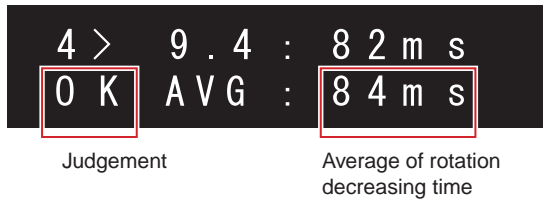

Fig. 2 Example of displaying FL
5. The rotational speed, time and the judgement are displayed in the FL display (Refer to Fig. 2).